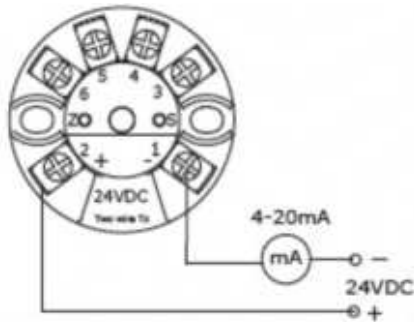

Fig 11
- Open the terminal cover and connect 24 VDC supply to +ve & -ve terminals of transmitter card through multimeter in series. (Refer fig 11)
- Connect 24 VDC supply to supply terminals with multimeter in series, refer fig 11, 12.
- For re-calibration of transmitter, remove the gauge from the tank, place it on working table and connect transmitter to supply and multimeter as shown in fig 11 & 12 for analog and digital indicator respectively.